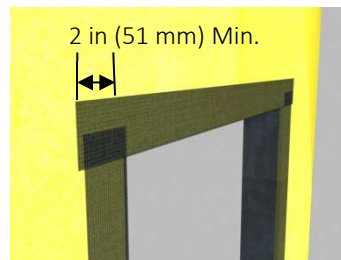

Fig. 4
- 5) Install the AquaFlash System at the head overlapping the jamb pieces a minimum of 2 in (51 mm) – **Figure 4**.